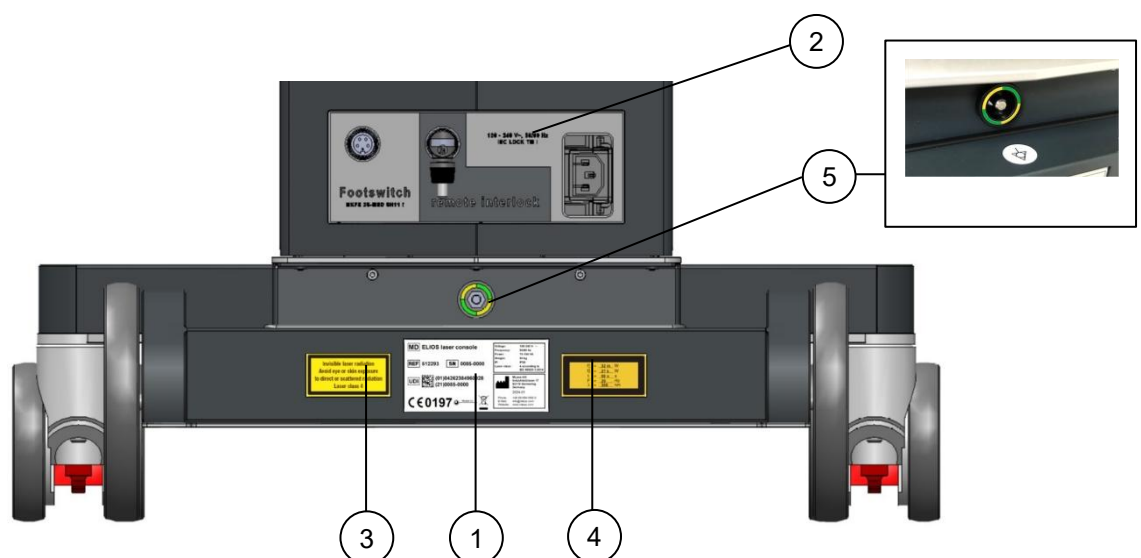

Fig. 2-1: Backside view
The label is located on the backside of the laser (see Fig. 2-1).
3.	<p>The ELIOS laser console generates class 4 laser radiation. Neither eye nor skin should be exposed to this invisible radiation.</p> <p>The label is located on the backside of the laser (see Fig. 2-1).</p>
4.	<p>The laser radiation output information is specified on the pictured label.</p> <p>The label is located on the backside of the laser (see Fig. 2-1).</p>
5.	<p>Connector for electrical potential equalization.</p> <p>The label is located on the backside of the laser (see Fig. 2-1).</p>